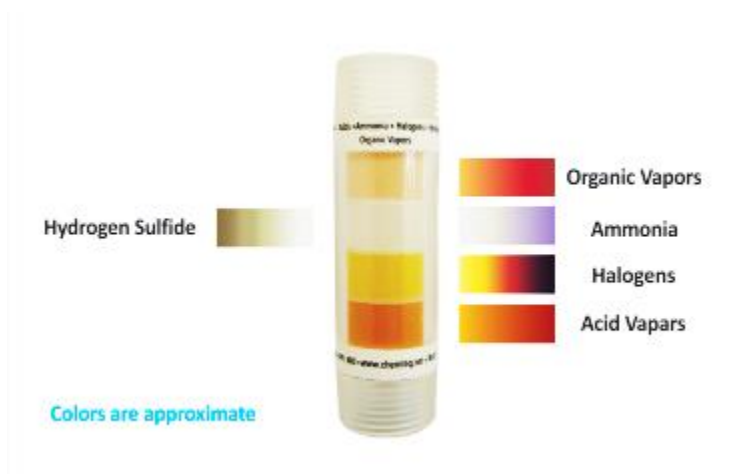

Figure 1
- e. Color change of indicator indicates the presence of its respective contaminant(s), See figure 1.